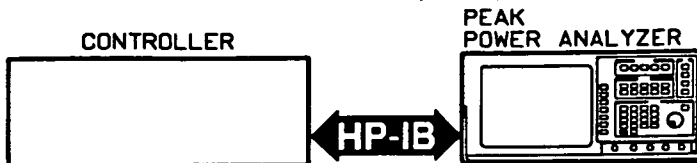

Figure 2-8. Default Calibration Setup
2. Set the address of the Peak Power Analyzer to seven (7) using the following steps:
4. Set up the equipment as shown in figure 2-8.